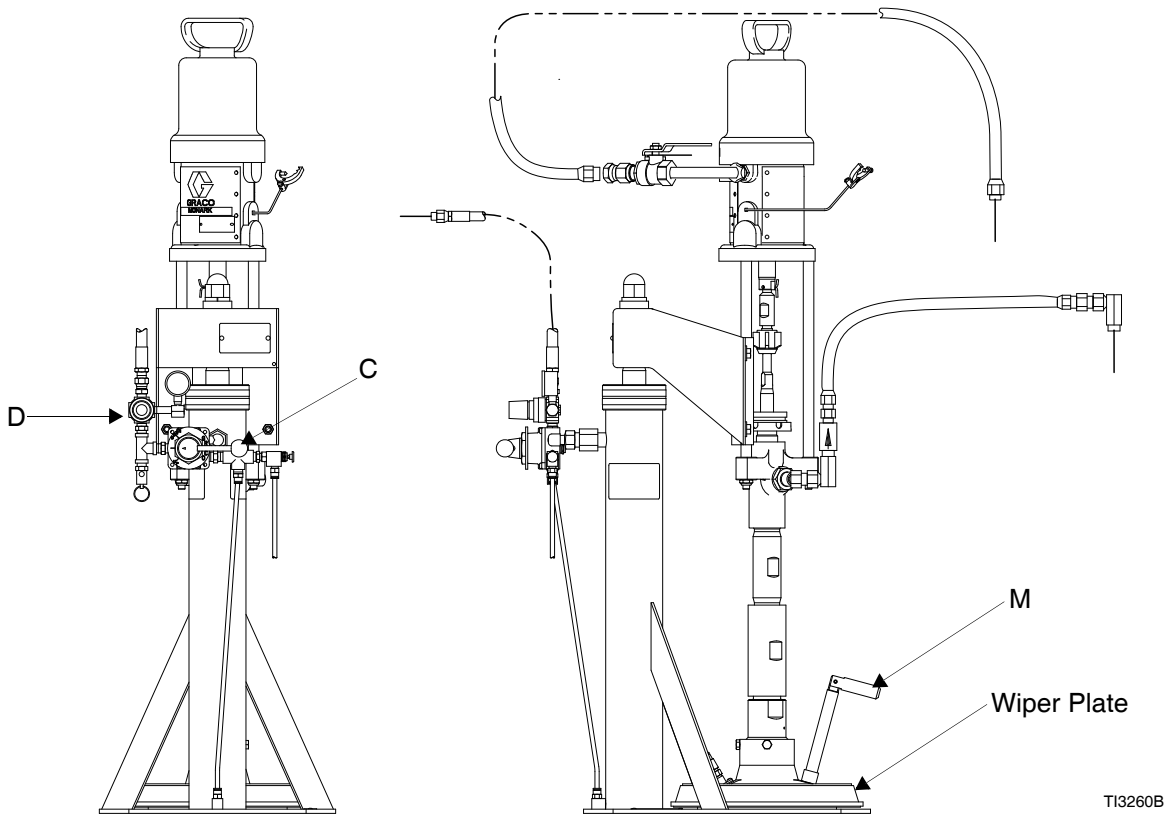

FIG. 12
2. Set the pail ram air regulator (D) to 40 psi (0.28 MPa, 2.8 bar), FIG. 12.
3. Push the ram directional lever (C) to the UP position and let the ram rise to its full height.